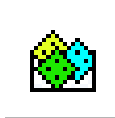

Figure 4: Pack Installer Icon in Toolbar
2. Click on the pack installer icon in the tool bar as shown in Figure 4.